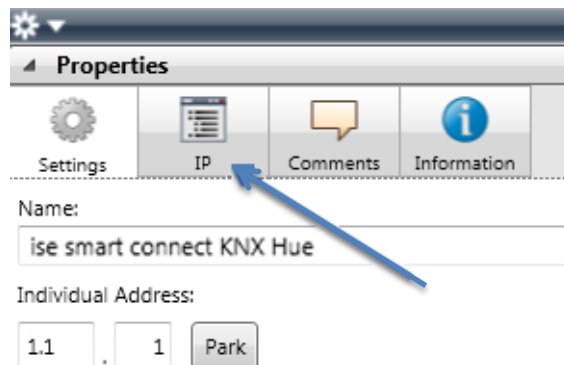

Figure 4: Device properties dialogue of the ETS.
2. Display the device properties in the sidebar on the ETS as shown in Figure 4.